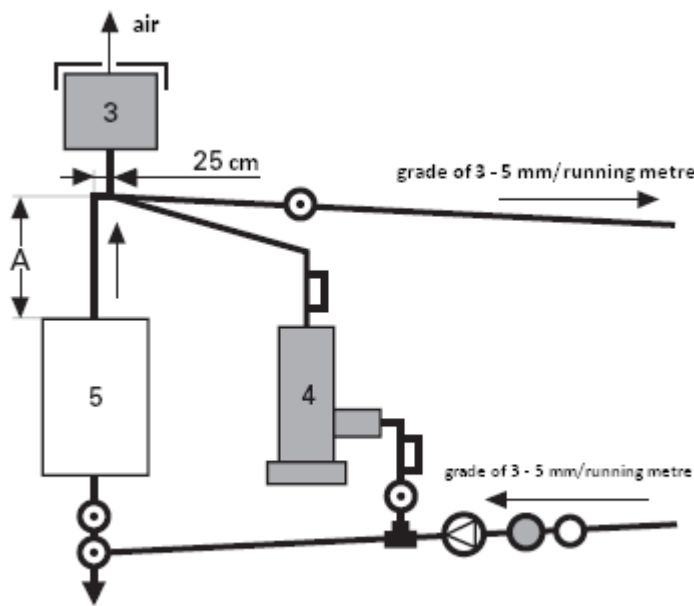

Fig. 3 Reserve electrode boiler connection diagram
- It is possible to build our electrode boilers in earlier installed heating systems (also as secondary reserve boilers by using parallel connection) under the condition of obligatory performance of our recommendations (Fig. 3). The power of the reserve boiler should correspond to the size of the heated space, quality of the thermal protection, and volume of the heat-transfer agent in the heating system (Table 1). In case of installing of the reserve boiler in running heating system it is necessary to perform the following tasks: